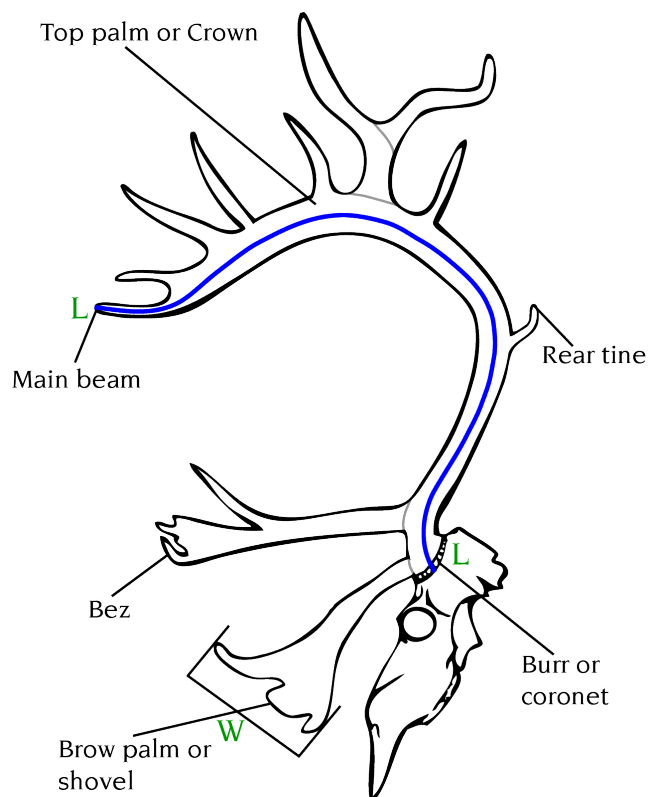

Figure 1
The measuring elements of a caribou are (1) main beam length, (2) height of the brow palm, also called the shovel, (3) length of the bez (pronounced “bay”) tine, (4) circumferences of the main beam and top palm, (5) total number of tines over 0.5 inch, (6) length of the two longest tines from the top palm, and (7) span. (Figure 1)